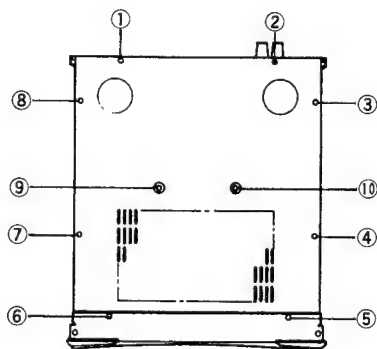

Fig. 2
1. Remove screws ① to ⑪, and then remove the bottom cover in Fig. 2